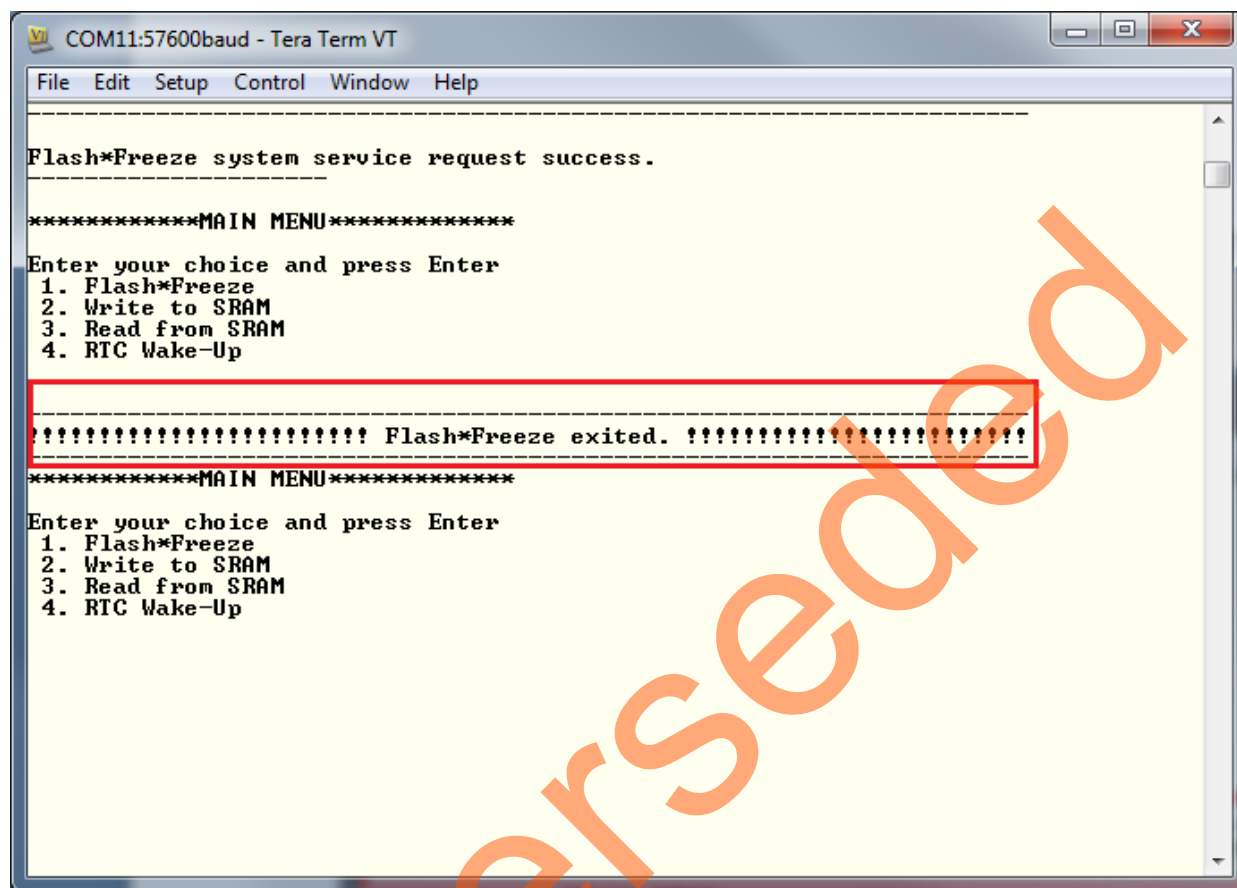

Figure 17 • I/O Activity F*F Exit Event
- To wake up the device from F*F mode, press SW1 switch on the board. This indicates a change on L20 package pin I/O and wakes up the device from F*F, as shown in Figure 17.